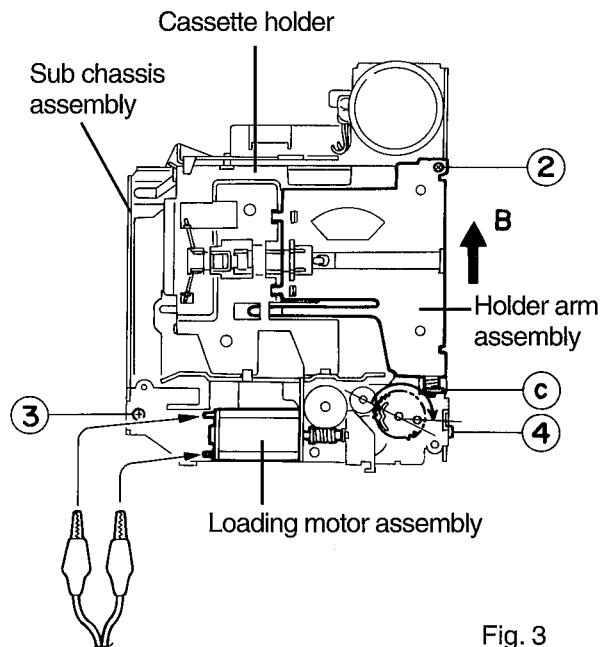

Fig. 3
### ■ Removing the Cassette Holder and Holder Arm Assembly ( See Fig. 3 )
3. Apply DC 6V to the lead wire of the loading motor assembly and turn the load gear assembly to the position shown in Fig. 3.
4. Remove the screw ② securing the cassette holder and holder arm assembly.
5. Shift the cassette holder and the holder arm assembly in the direction shown by the arrow "B" and remove them from the interlocking section ③ of the sub chassis assembly.
### ■ Removing the Sub Chassis Assembly ( See Fig. 3 )